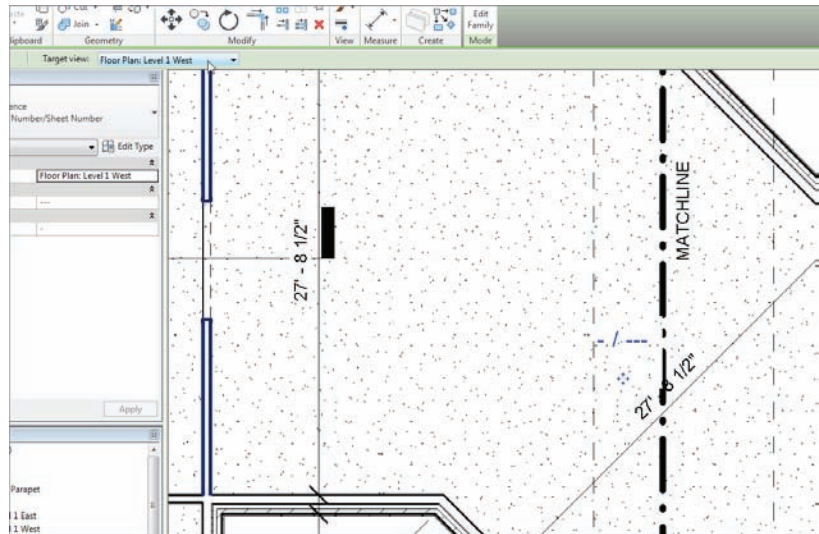

FIGURE 13.13 Adding a view reference includes choosing the correct target view from the Options bar.
8. Click the move grip, and drag the text over to the match line so it's positioned as shown in Figure 13.13.
10. On the Options bar, you see a Target View menu. Make sure Floor Plan: Level 1 West is current, as shown in Figure 13.13.
11. Pick a point to the left of the match line (see Figure 13.13).